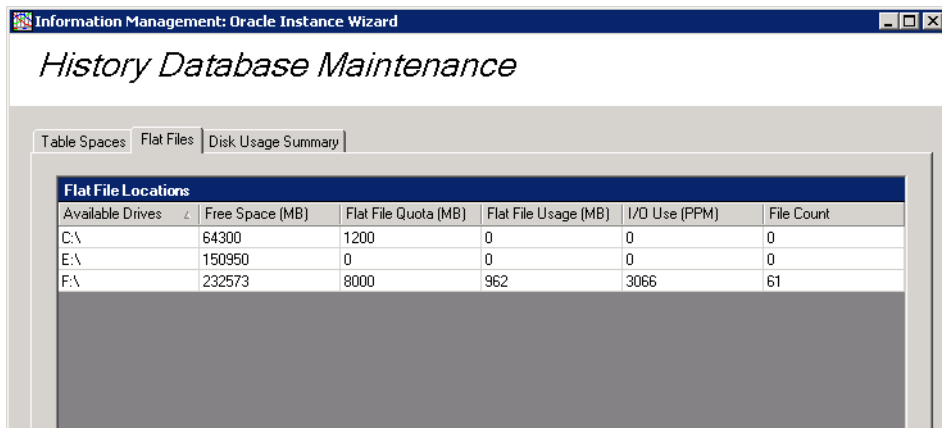

Figure 85. Flat Files Maintenance Tab
Use the Instance Maintenance Wizard **Flat File** tab, Figure 85, to select a location for flat file space from a list of drives available for History data storage. Select the Flat File Quota (MB) column for a drive and enter the size of the desired flat file space.
Use the Instance Maintenance Wizard **Disk Usage Summary** tab, Figure 85, to refer to disk space usage from a list of drives available for History data storage. Select the a drive to refer to the usage.